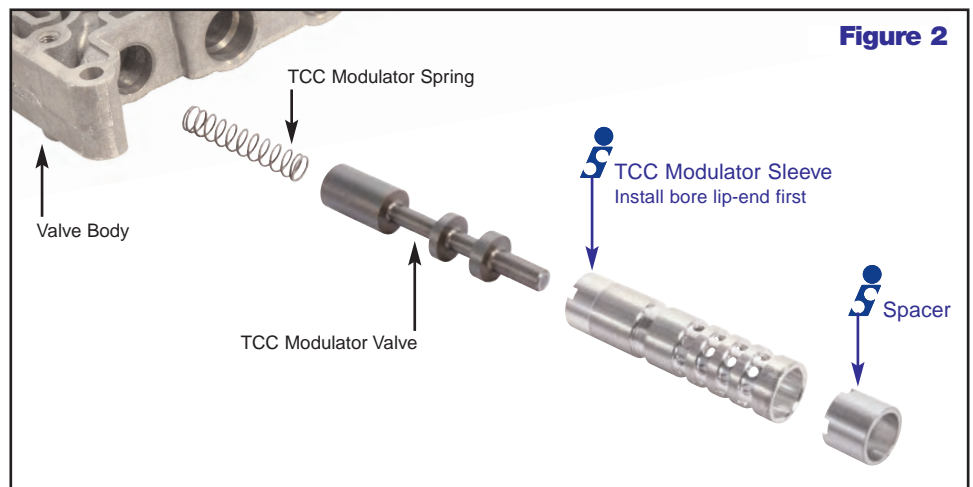

Figure 2
3. Lay the sleeve and spacer out (see Figure 2) and slide them over the valve until both are held by spools.